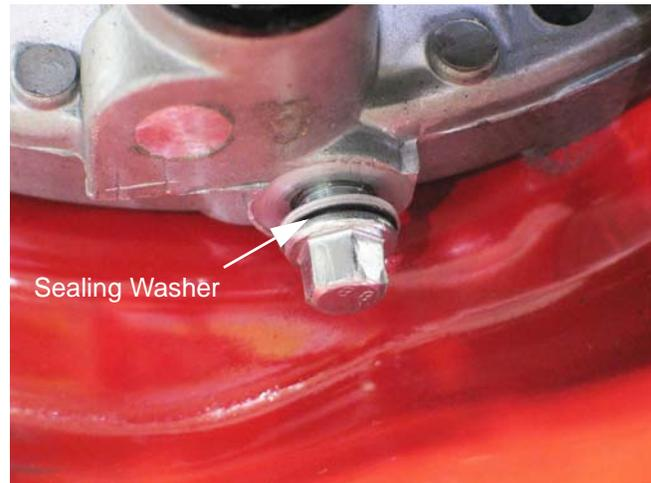

Figure 1.8
- B. Remove the drain plug using a 1/4" extension. See Figure 1.8.